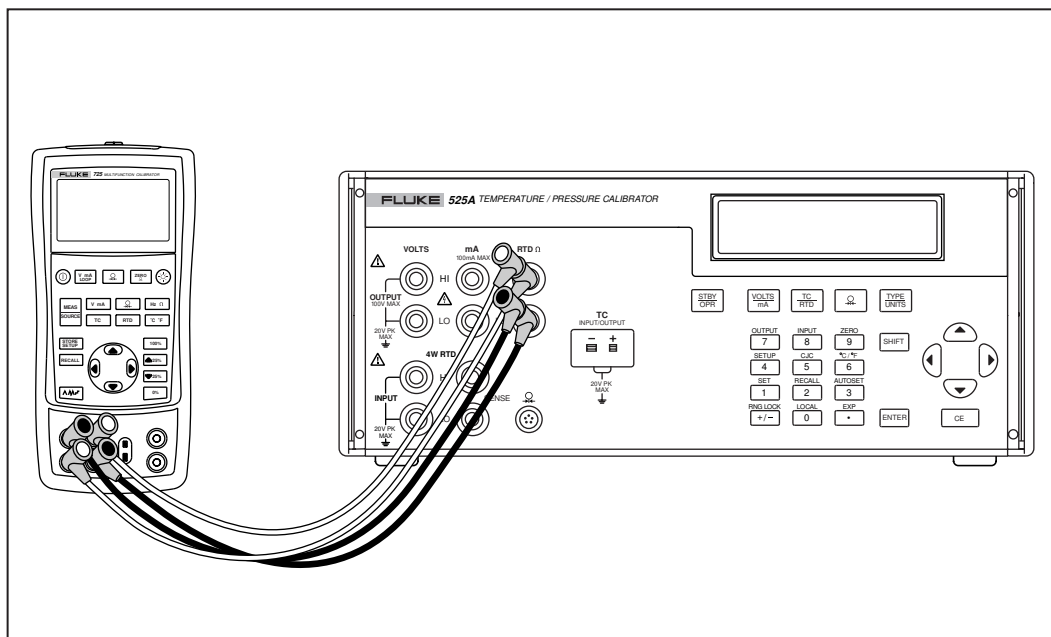

Figure 2-4. Connection for Setting Resistance Output
1. Connect the Calibrator to the UUT as shown in Figure 2-4.